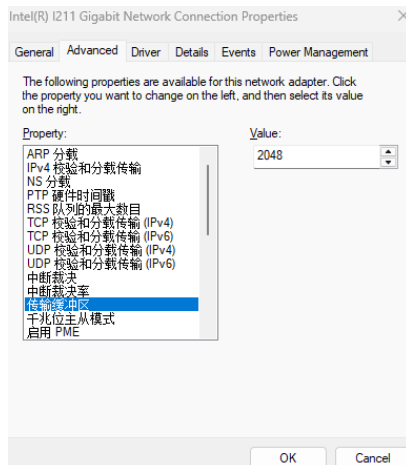

Figure 1.5.1 Transmission Buffer Configuration
- 1 Locate the transfer buffer in the property list and set it to the maximum value. As shown in Figure 1.5.1.